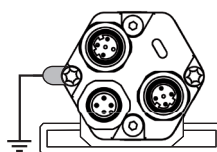

Fig. 10: Grounding profile sensor
The sensor is isolated from the machine ground. For this reason, earthing via the flat-pin connector on the sensor electronics housing is indispensable (see Fig. 10).
- Earthing the profile-style sensor via the flat-pin connector on the sensor electronics housing (see Fig. 10) is mandatory.